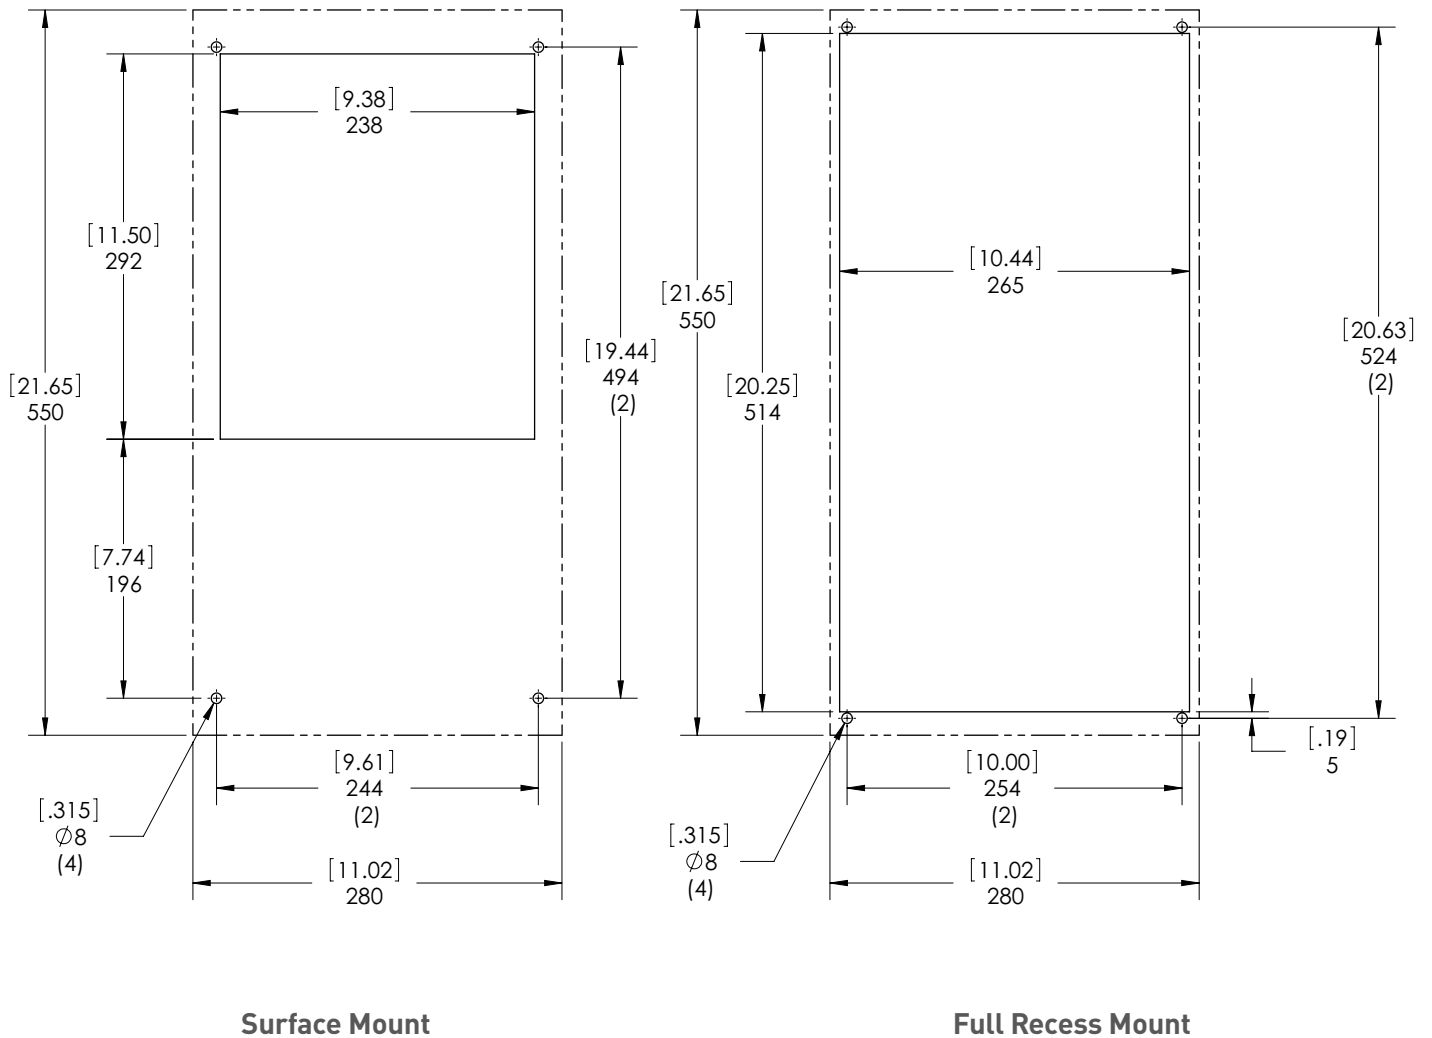

Figure 13
2. Using the cutout template provided with the unit, prepare the enclosure. See Figure 13 and Figure 14. The front of the unit requires a half meter clearance for proper airflow. Five centimeters is required on each side of the unit. To avoid condensate overflow, unit must be mounted within 3° of level.